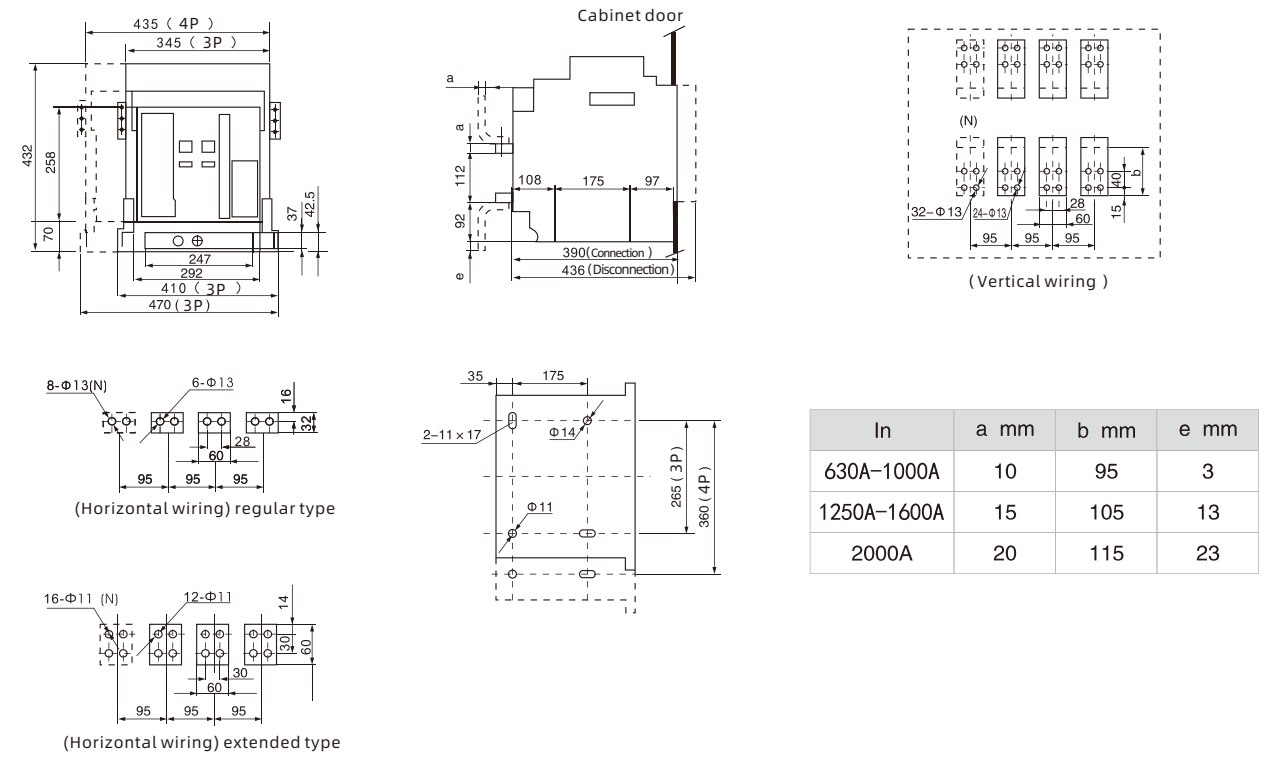

Figure 10 Draw-out circuit breaker overall and installation dimensions (ARW1-2000, 2000/4)
1.2 Draw-out circuit breaker overall and installation dimensions are shown in Figures 10, 11, 12, 13, and 14.